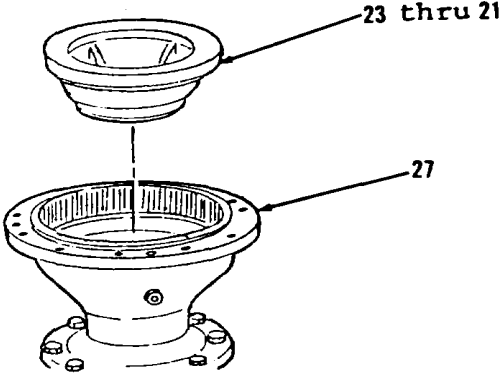

Figure 14-158.
- 12. Install items 23 thru 21 as an assembly in housing (27, Figure 14-158).